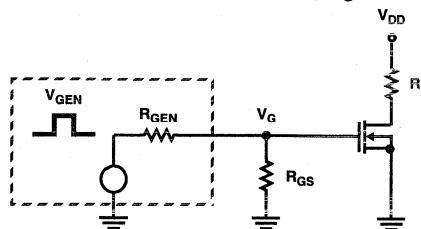

FIGURE B-1. TYPICAL PULSE-GENERATOR DRIVE CIRCUIT
**Case 1: Typical Pulse-Generator Drive, Figure B-1**